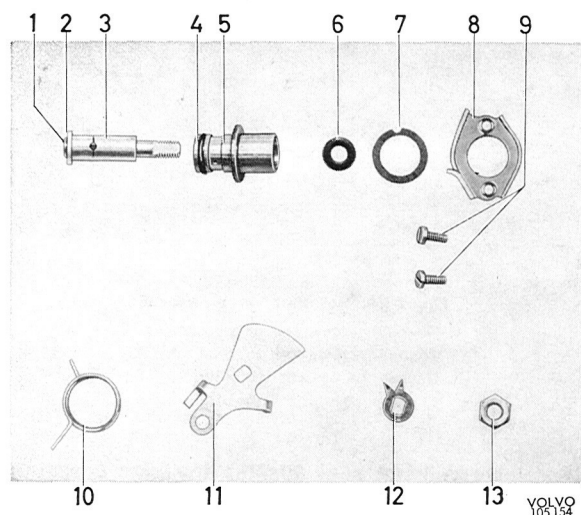

Fig. 2-138. Cold start device, disassembled
4. Pull out the cold start device from the carburetor housing. Press the spindle out of the cold start device housing. Remove the gasket (7, Fig. 2-138), the rubber ring (4) and the seal (6). Clean all parts. Blow clean all channels with air.